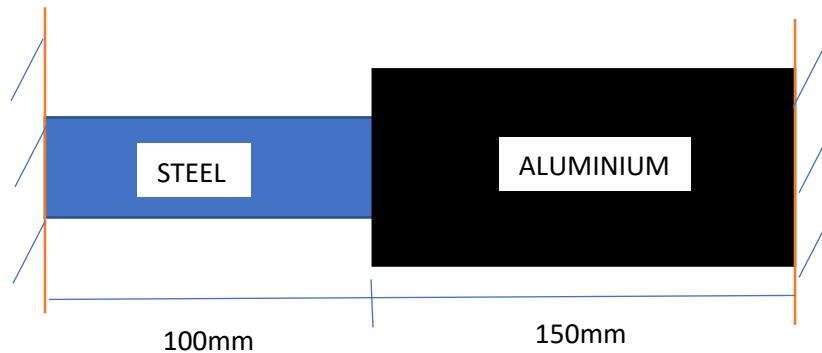

Figure 1(c)/ Rajah 1(c)
- CLO1 (c) The **Figure 1(c)** shows a composite bar rigidly fixed at both ends. Calculate the stress that occurs in every bar if the temperature is increased by 50°C .